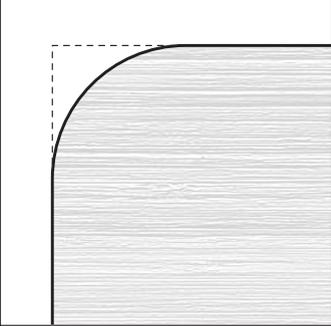

Fig. 4
- 'Edged' Faces – Cut will remove additional 1.5mm of worktop to allow for edging strip to be applied (Fig. 4).